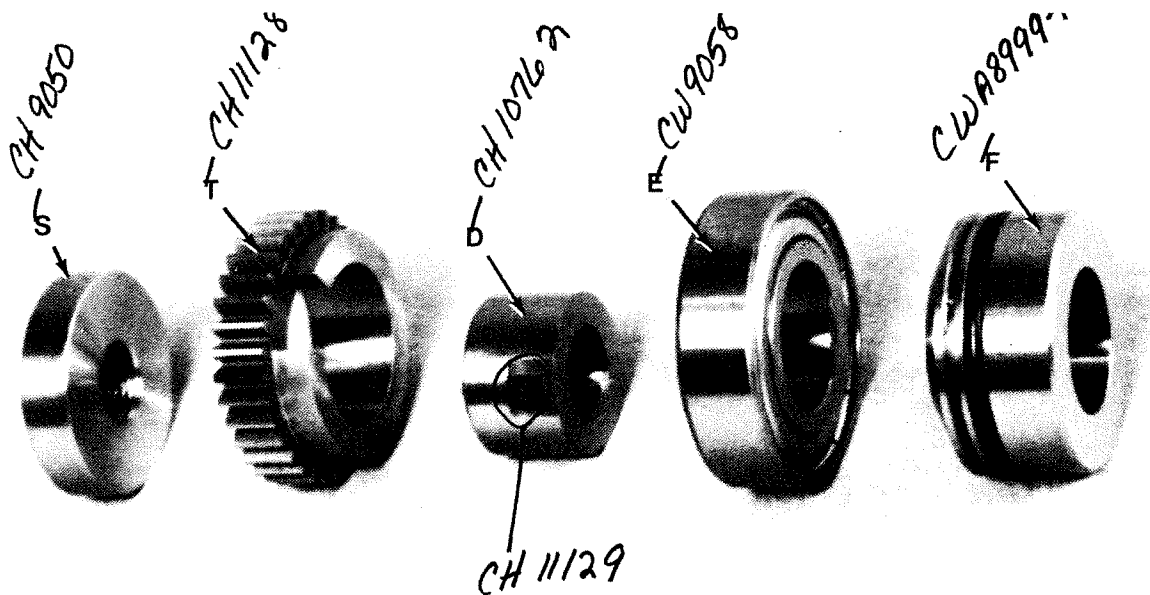

Figure 2.33 - Turret Indexing Shaft Components
20. Remove bushing "D", bearing "E", and spacer "F", Figure 2.33 .
6. Coat the O.D. of spacer "F" and bushing "D", Figure 2.33, with Molyube lubricant.